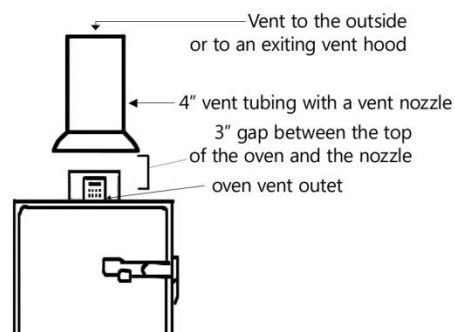

Figure 1- Direct Venting Option
2. The oven can be direct vented by suspending a 4" diameter pipe at least 3" above the vent hole on top of the smoker that runs outdoors or to an existing hood (**Figure 1**).